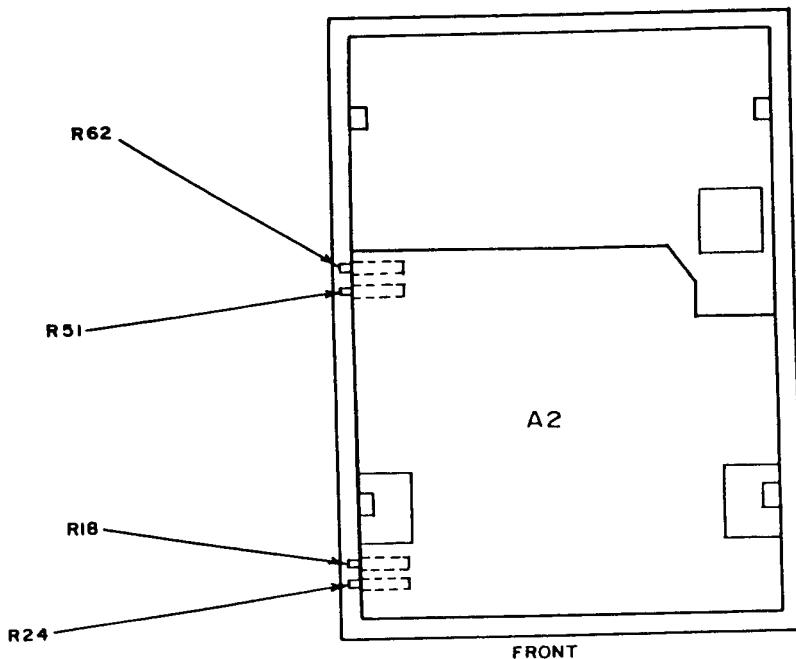

Figure 3. Test instrument - (Hewlett-Packard, Model 5306A) - bottom view.
- (1) Adjust +V ADJ R24 (rear panel) to obtain +9.0000 V dc indication on measuring system (R).
- (2) Adjust -V ADJ R1 (rear panel) to obtain -9.0000 V dc indication on measuring system (R).
- (3) Adjust A2 R18 (fig. 3) to obtain indication of +90.000 V dc on measuring system (R).
- (4) Adjust A2 R24 (fig. 3) to obtain indication of +900.000 V dc on measuring system (R).
- (1) Adjust A2 R62 (fig. 3) to obtain best in tolerance compromise of error on each range (R).
- (2) Adjust A2 R51 (fig. 3) to obtain best in tolerance compromise of error on each range (R).